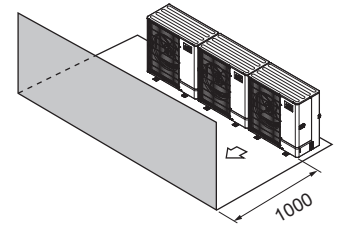

Fig. 1-30
- ③ Obstacles at front only (Fig. 1-30)